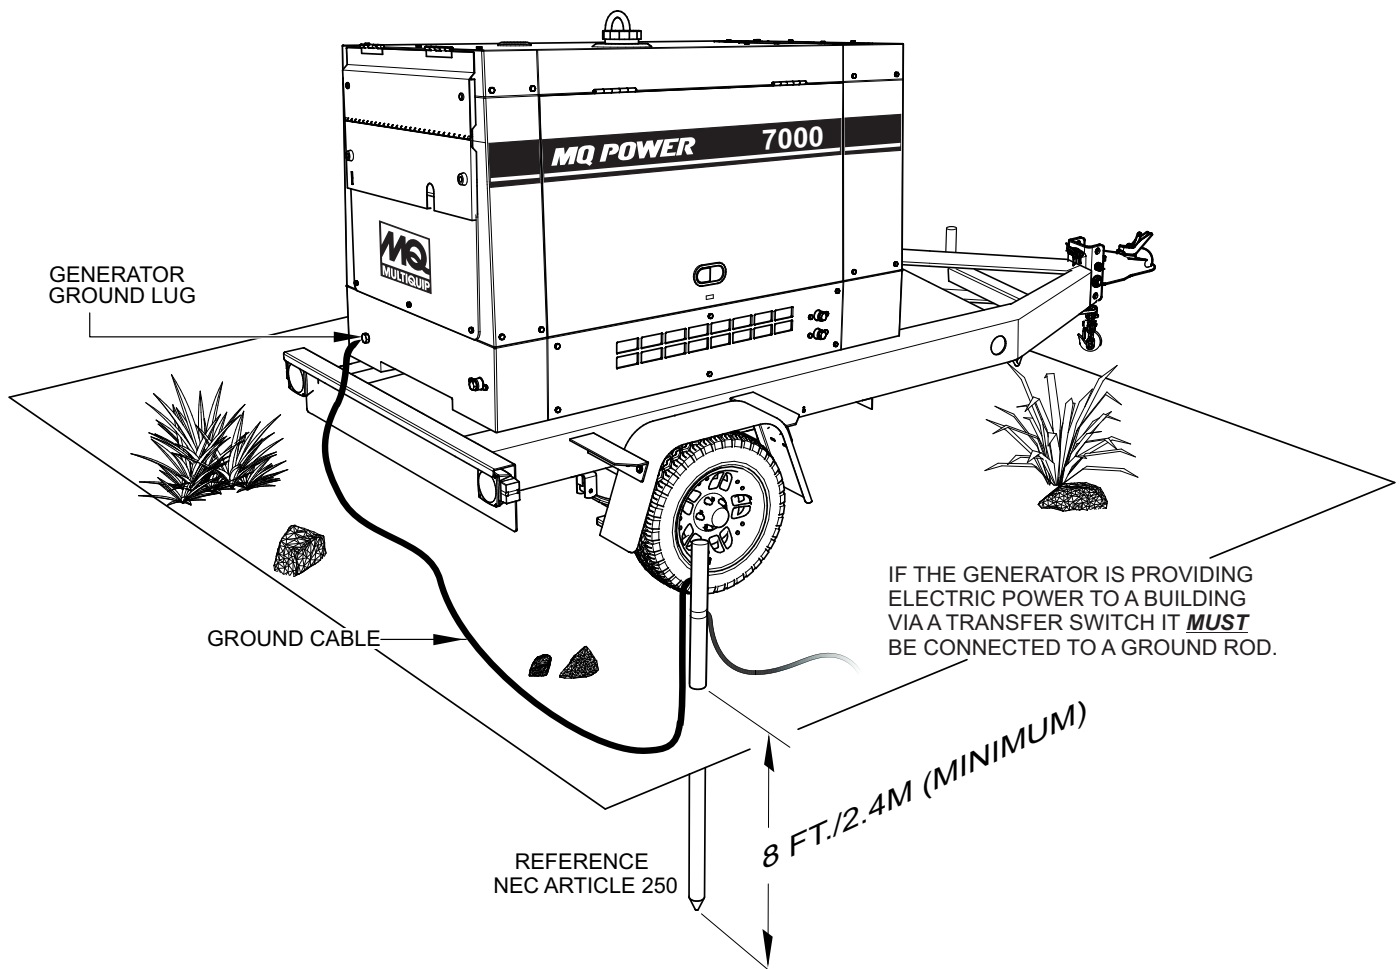

Figure 3. Generator Grounding
Connect one end of the ground cable terminal to the generator ground point (Figure 3). Connect the other end of the ground cable to a suitable earth ground (ground rod).
The Occupational Safety and Health Administration (OSHA) and the National Electrical Code (NEC) recommend that if the generator is providing electrical power to a structure (home, office shop, trailer or similar) it **must** be connected to a grounding electrode system, such a driven ground rod (Figure 3).
If applicable, to guard against electrical shock and possible damage to the equipment, it is important to provide a good **EARTH** ground, (Figure 3).
2. When grounding of the generator (Figure 3) is required, connect one end the ground cable to the ground lug on the generator. Connect the other end of the ground cable to the ground rod (earth ground).